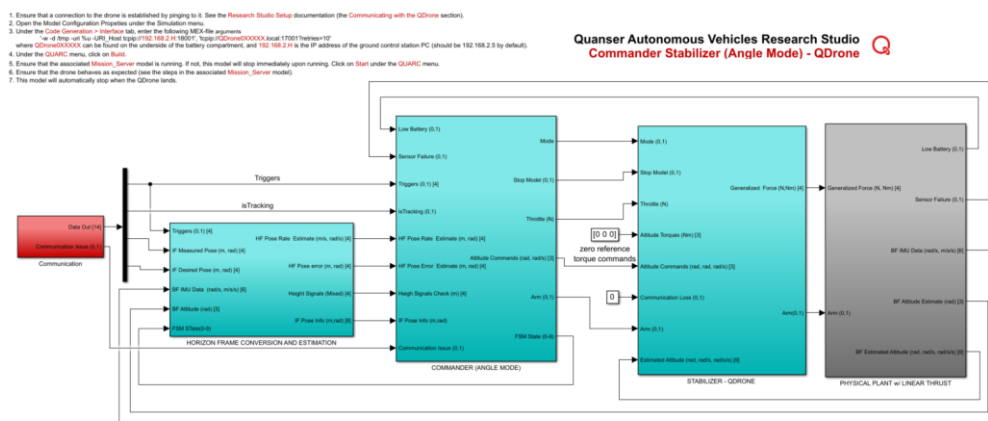

Figure 2. Commander Stabilizer Model
- From the same folder containing this file, open the folder QDrone Hover Test, and open Commander_Stabilizer_QDrone.mdl (Figure 2).